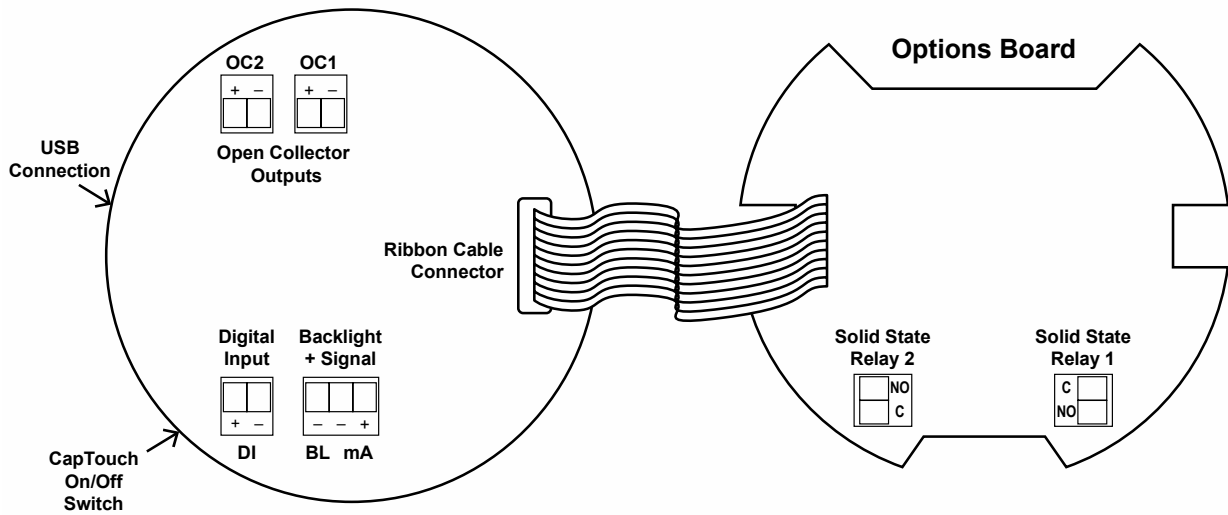

Figure 5. Connector Labeling for PD6908-HA-##-L2N
Relay connections are made to two-terminal connectors, as shown on Figure 5, page 21. Each relay's C terminal is common only to the normally open (NO) contact of the corresponding relay.